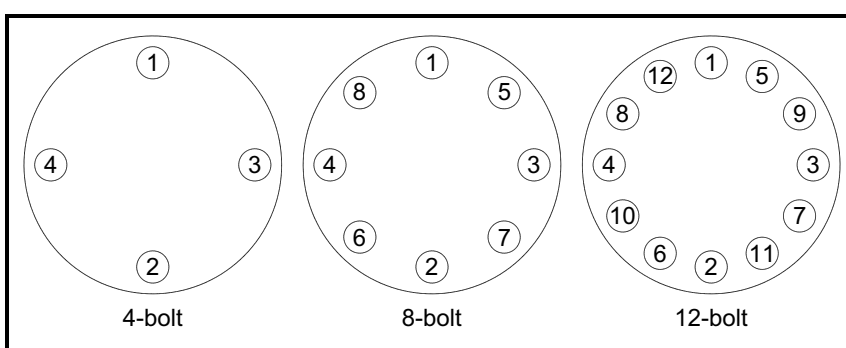

Figure 5: Flange Bolt Torquing Sequence
The required bolt load for sealing the gasket joint is affected by several application-dependent factors. Therefore the required torque for each application may be different. Refer to the ASME Pressure Vessel Code guidelines for bolt tightening standards and refer to *Figure 5* below for the proper bolt tightening sequence.
4. Place the remaining studs between the pipe flanges. Tighten the nuts in the sequence shown in *Figure 5 on page 11*. Check for leaks after tightening the flange bolts.
3. Install bolts in both process connections. Tighten the nuts in the sequence shown in *Figure 5 on page 11*. Check for leaks after tightening the flange bolts.